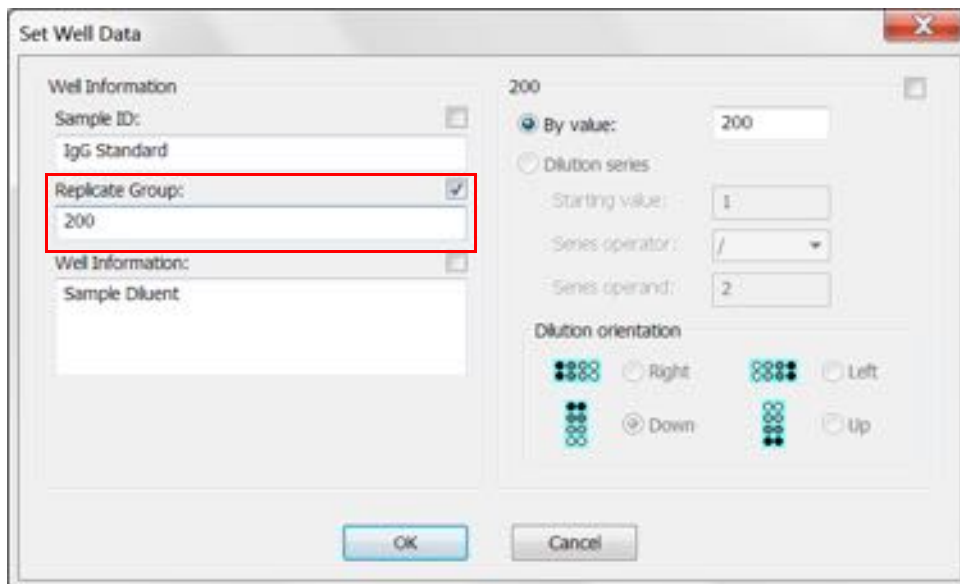

Figure 5-17: Add Replicate Group from the Sample Plate Map
2. In the **Set Well Data** dialog box (see Figure 5-17), enter a name in the **Replicate Group** box and click **OK**.